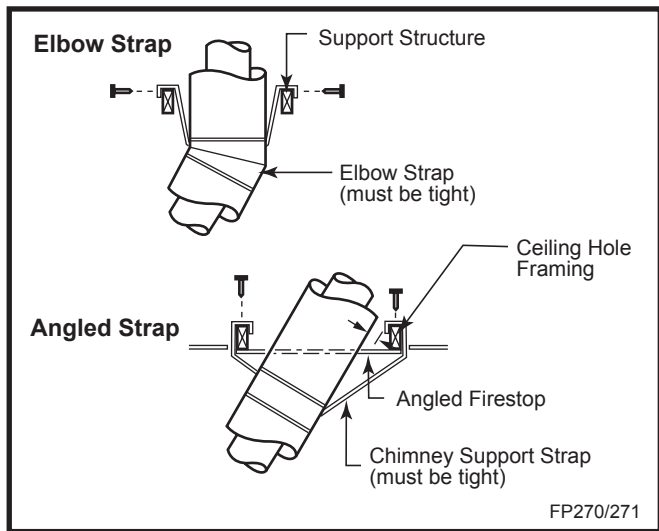

Fig. 36 Attach straps to a structural framing member.
- SKCS8 must be used to support offsets. (Fig. 36) This application will require that you first determine the roof pitch and use the appropriate starter kit. (Refer to Venting Components List)